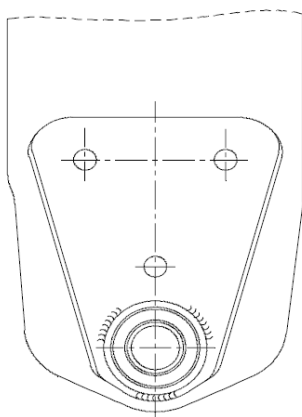
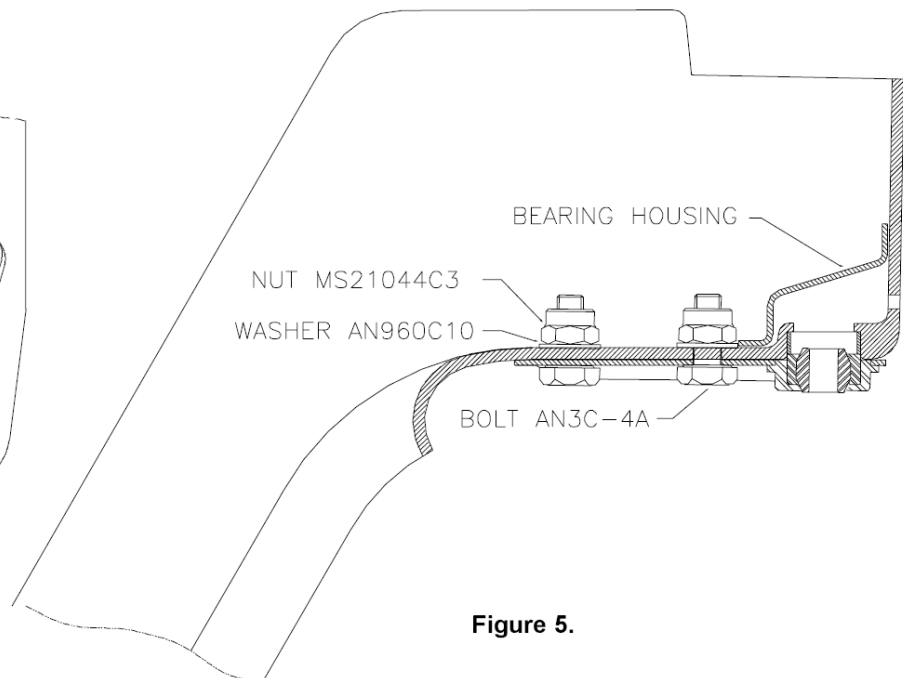

Figure 4.
Figure 5.
- 10.6 Index the bearing plate into the recess in the spar, see fig. 5. Align the bearing plate so its center line is parallel to center line of the vertical stabilizer. Use the bearing plate assembly for locating the installation holes in the spar as shown on Figure 4.
- 10.8 Install the GE 8 UK bearing and bearing plate assembly into the spar, vertical stabilizer with supplied hardware as shown on Figure 5. Use DP 110 epoxy adhesive to install the bearing housing cover as shown in Figure 5.